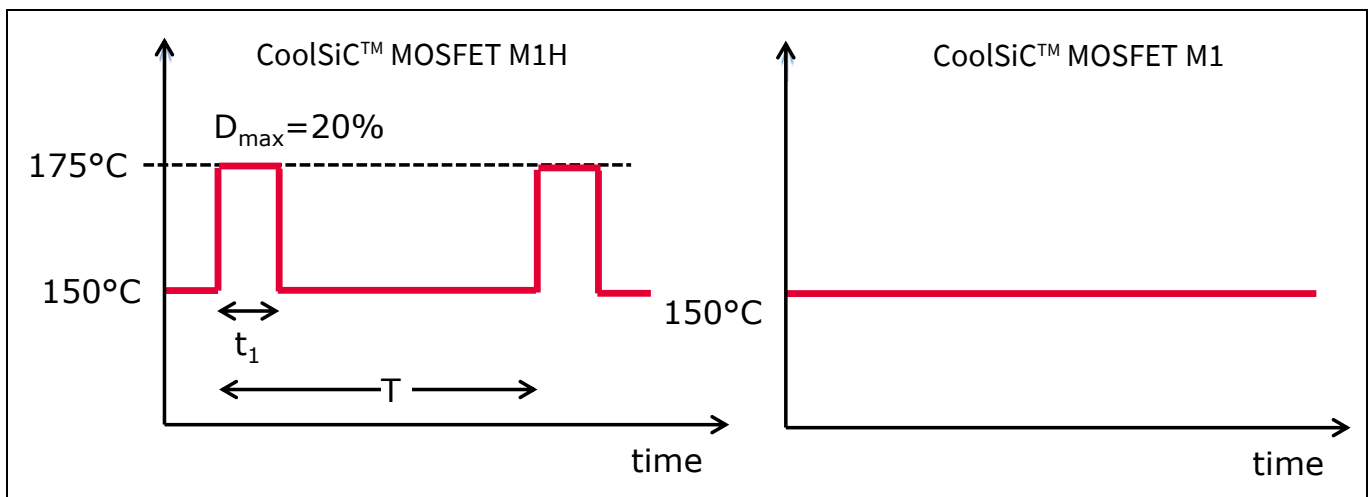

Figure 21 Maximum operation junction temperature definition for CoolSiC™ MOSFET M1H and M1
Figure 21 shows the definition of the allowed operation junction temperature under switching conditions for CoolSiC™ MOSFET M1H. For normal operation, the maximum junction temperature is 150°C . During overload conditions, a maximum junction temperature above $T_{vj\ op} = 150^\circ\text{C}$ and up to $T_{vj\ op} = 175^\circ\text{C}$ is allowed for a maximum duration of $t_1 = 60$ seconds. The overload duration where the $T_{vj\ op}$ is above 150°C must be within 20% of the load cycle time (T), e.g. $t_1 = 60$ seconds every $T = 300$ seconds. This ability to withstand a higher junction temperature (over 150°C) can enable higher power density. However, it can also result in higher heatsink temperatures.
The maximum temperature definition shown in Figure 21 should be considered as the maximum $T_{vj\ op}$ limit including the temperature ripple caused by the fundamental output frequency. Figure 22 provides two examples of junction temperature profiles. In Figure 2216 (left), $T_{vj\ op}$ exceeds 150°C for $t_1 = 50$ seconds. It is below 150°C for the rest of the $T = 300$ seconds cycle. Therefore, the duty cycle is 16.7%. This condition is acceptable from the point of view of a maximum operating junction temperature. Another example is shown in Figure 22 (right). In this case, the temperature exceeds the maximum curve of the junction temperature for the entire duration of the load profile. This operation would not be allowed.